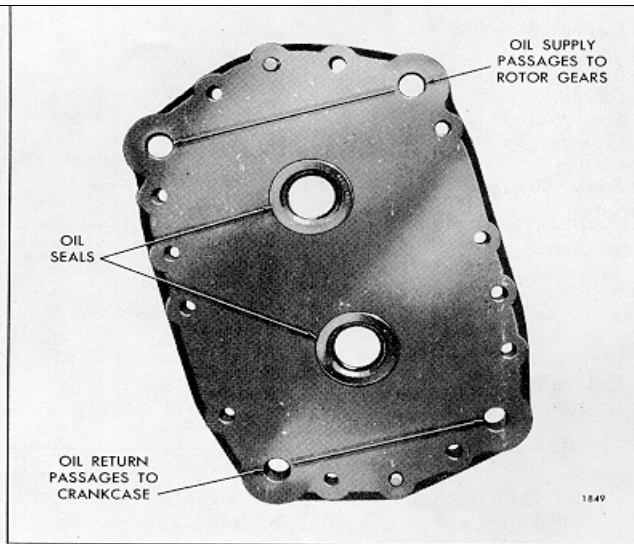

Fig. 15 - Blower End Plate and Oil Seal Location (Standard 71 and 71E Blowers)
1. Install the lip type oil seals (Fig. 15) as follows: